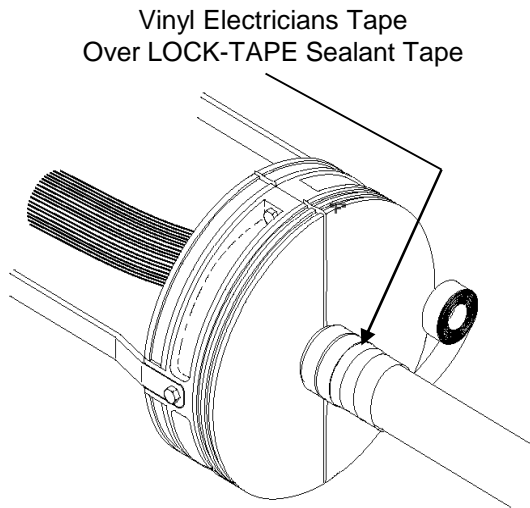

Figure 20
10.16 Apply two (2) wraps of vinyl Electricians tape around LOCK-TAPE Sealant tape outside End Plates. **See Fig. 20.**